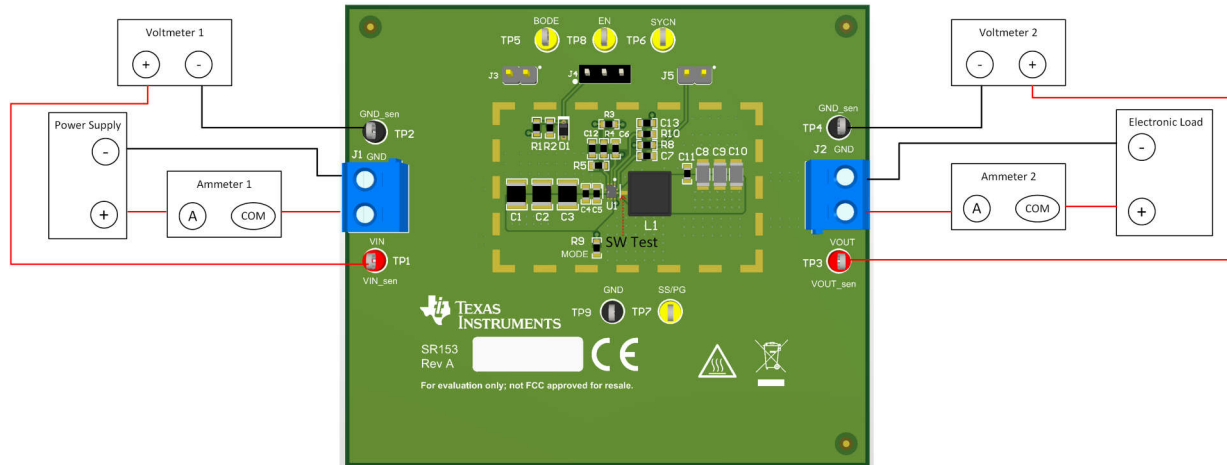

Figure 2-1. EVM Test Setup
Referencing the EVM connections described in Table 2-1, the recommended test setup to evaluate the TPS543521 is shown in Figure 2-1. Working at an ESD-protected workstation, make sure that any wrist straps, boot straps, or mats are connected and referencing the user to earth ground before handling the EVM.
1. Prior to connecting the DC input source, set the current limit of the input supply to 0.1A maximum. Make sure the input source is initially set to 0V and connected to the VIN and GND of J1 as shown in Figure 2-1.